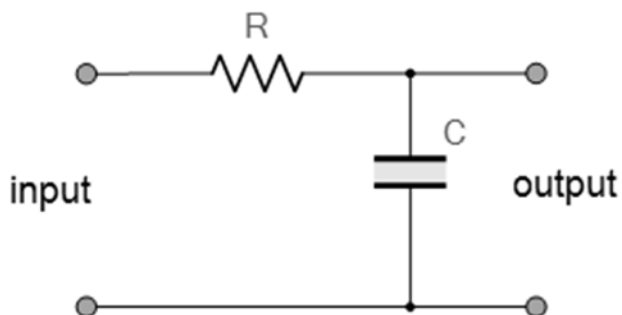
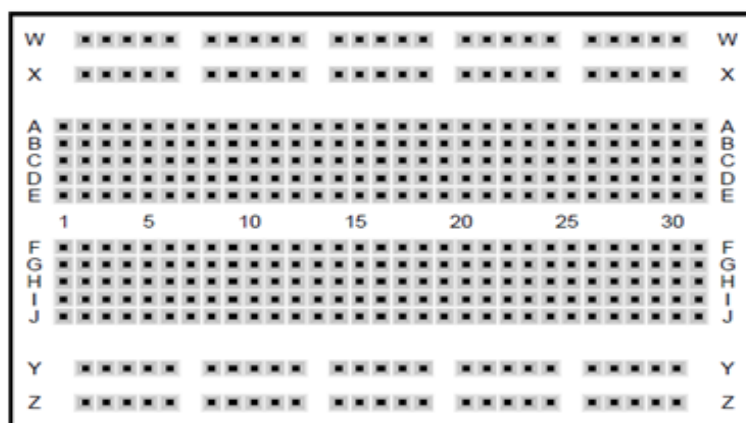

FIGURE 4.7.16
FIGURE 4.7.17
- 4.7.6 Construct the integrator circuit in FIGURE 4.7.16 below on the breadboard in FIGURE 4.7.17 below. Draw the component layout on the figure.